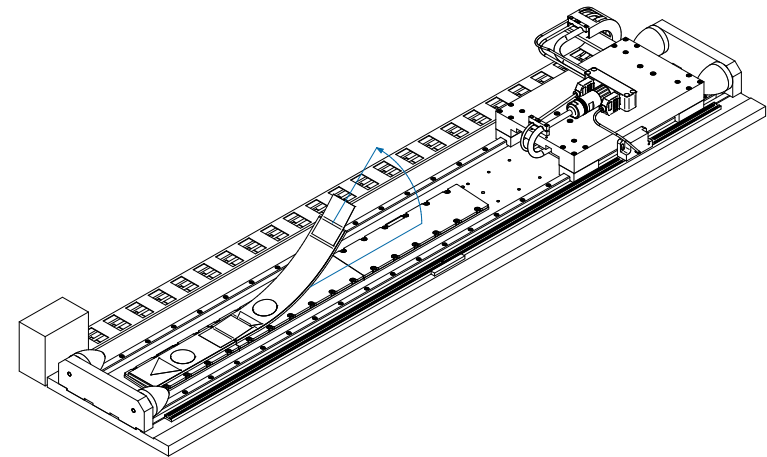

Figure 4.9: Removal of the protection plate.
4. Remove the protection plate from the mounted magnet plate and move the slide to the other end of the stroke. Secure the slide against unwanted movements. See figure 4.9.